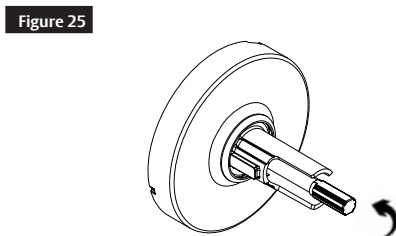
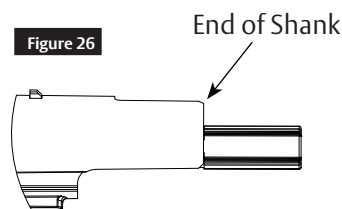
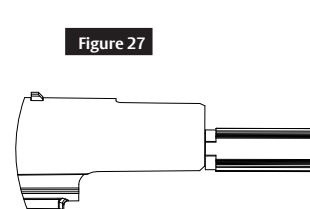

Figure 25
Figure 26
Figure 27
4. Rotate cap back counter-clockwise (Figure 25) until tool handle is approximately in line with the end of the shank as shown in Figure 26 for Fixed Core cylinder (FC) or in Figure 27 for Interchangeable Cylinder (LFIC). The flat on the tool should be at the 12 o'clock position.